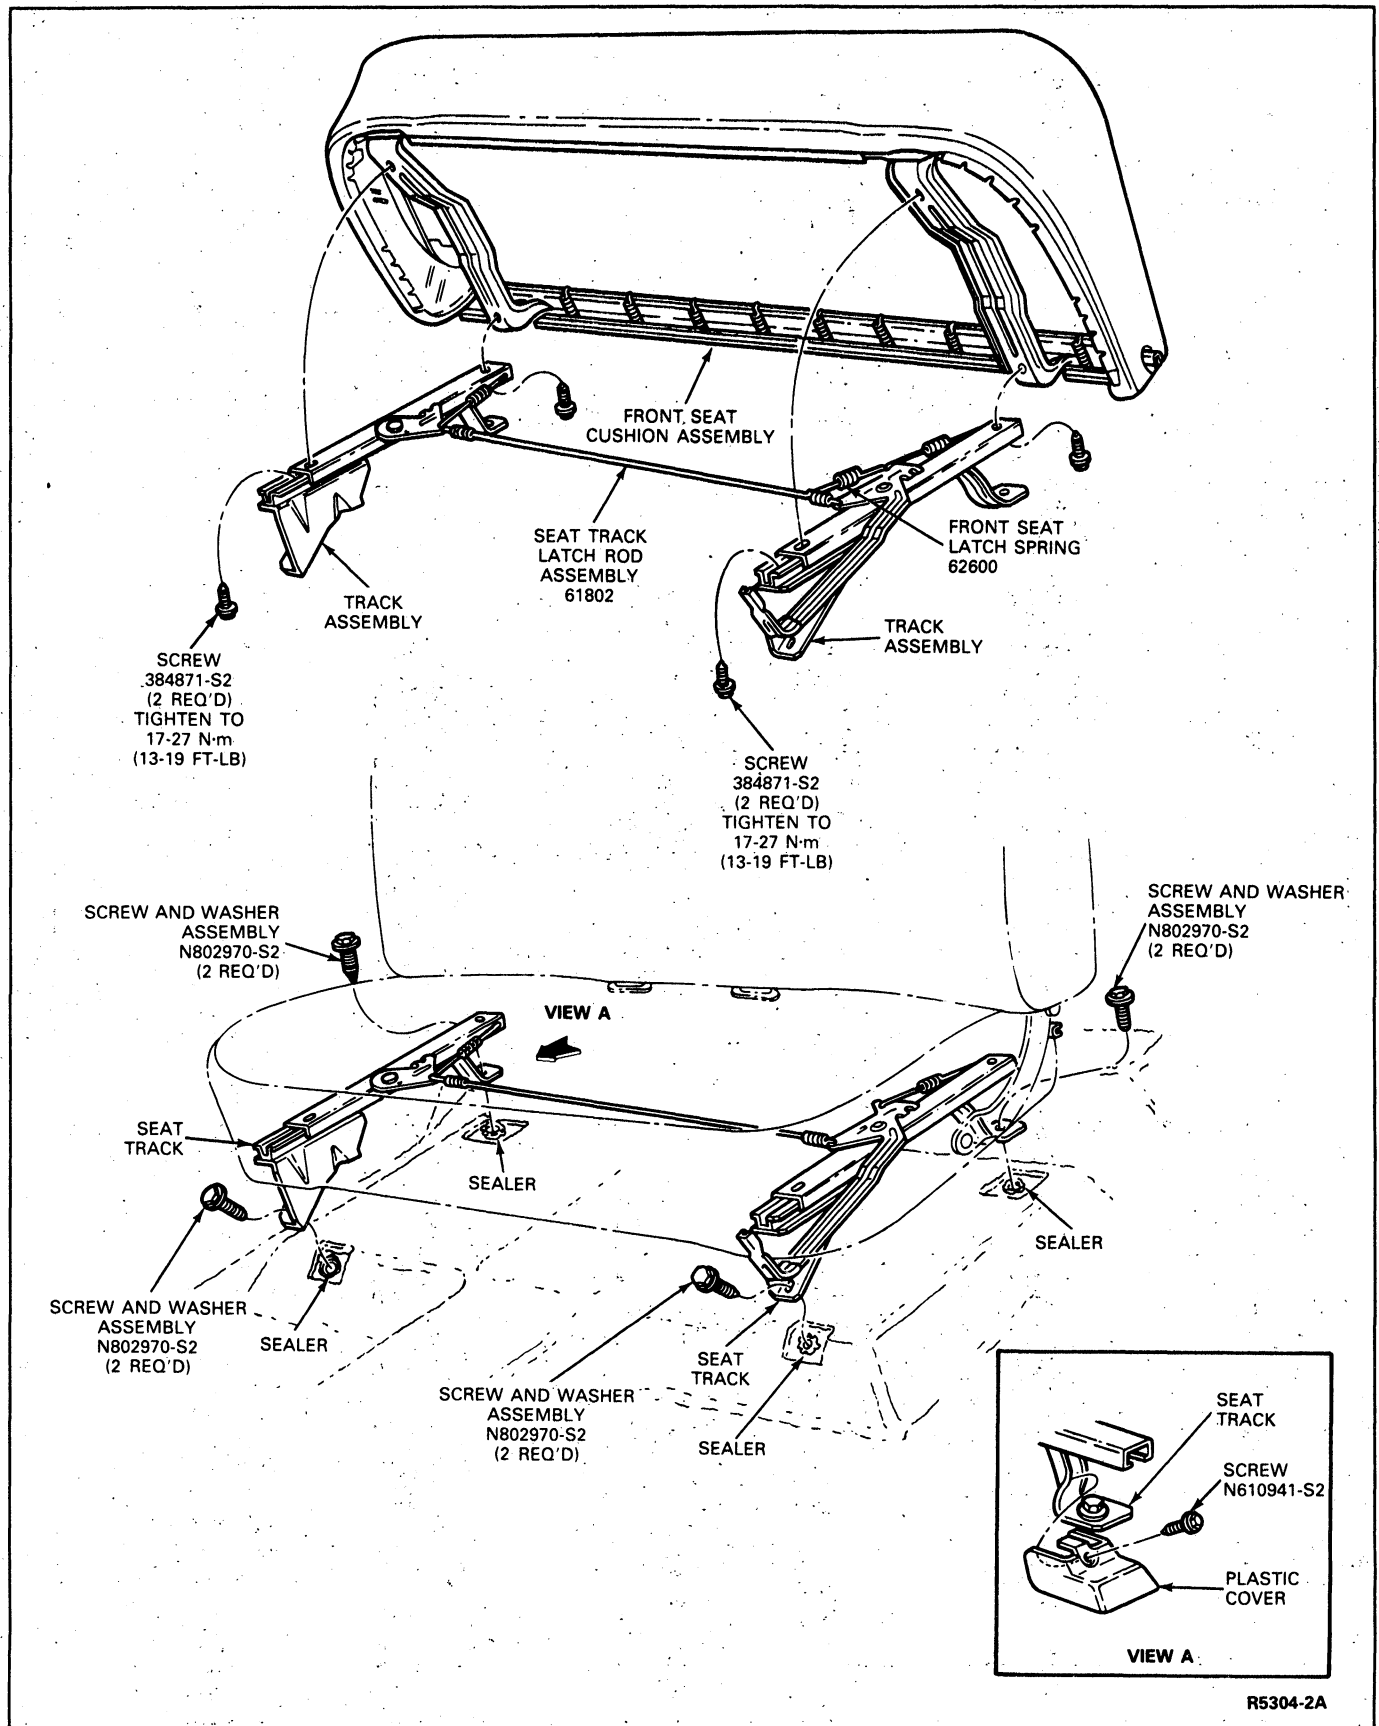

FIG. 3 Bench Seat and Track Installation—F-150—F-350, F-350 Crew Cab, F-Super Duty and Bronco
Refer to Fig. 3.
3. Disconnect the seat track latch tie rod from the latches on the seat tracks (Fig. 3).
1. Lubricate the seat track assemblies using Ford Polyethylene Grease D7AZ-19584-A or equivalent. Assemble the seat tracks to the cushion assembly (Fig. 3). Install the track-to-cushion screws and tighten to 17-27 N·m (13-19 ft-lb).